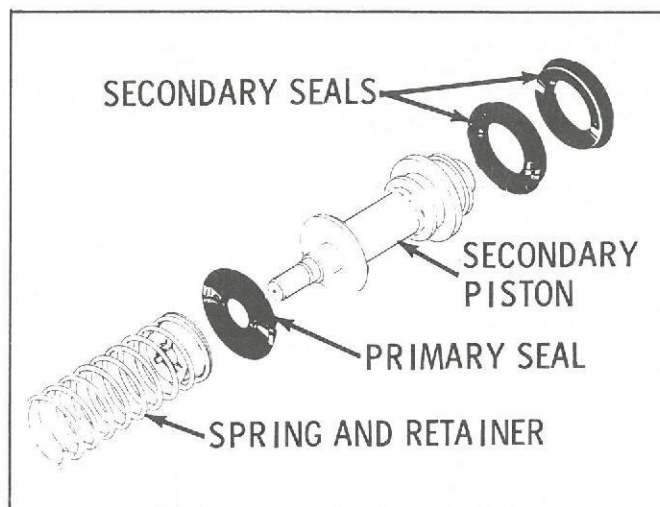

Fig. 5-5—Secondary Piston and Seals
2. Put new secondary seal in groove in end of secondary piston (Fig. 5-5).
3. Assemble a new primary seal over end of secondary piston, so that flat side of the seal seats against flange of piston (Fig. 5-5).